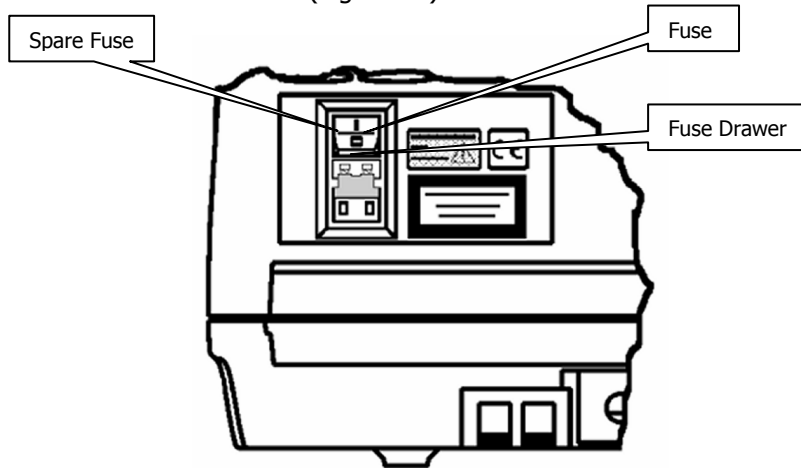

Figure 27 Fuse fitted; drawer open
3. Fit the new fuse into the slot (Figure 27).